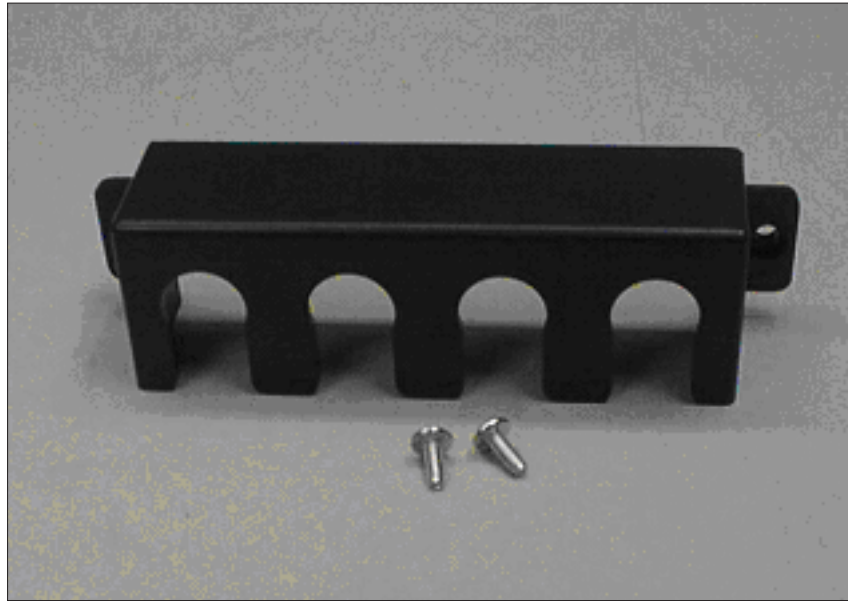

Figure 18. 2145 UPS-1U power cable-retention bracket hardware
2. Remove the bracket and the two screws (shown in Figure 18 on page 25) from the packaging.